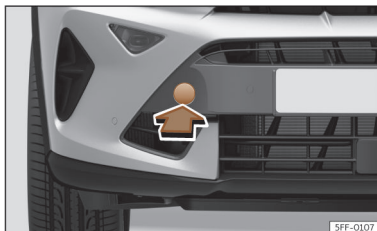

Fig. 208 Front bumper on right: remove the lid.
The housing of the removable towline anchorage is on the right side of the front bumper underneath a cover >>> **Fig. 208**.
- Remove the cover by pressing down on its base and leave it hanging from the vehicle >>> **Fig. 208**.